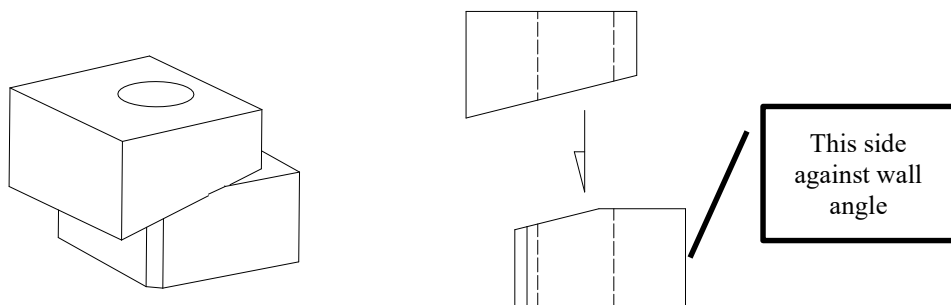
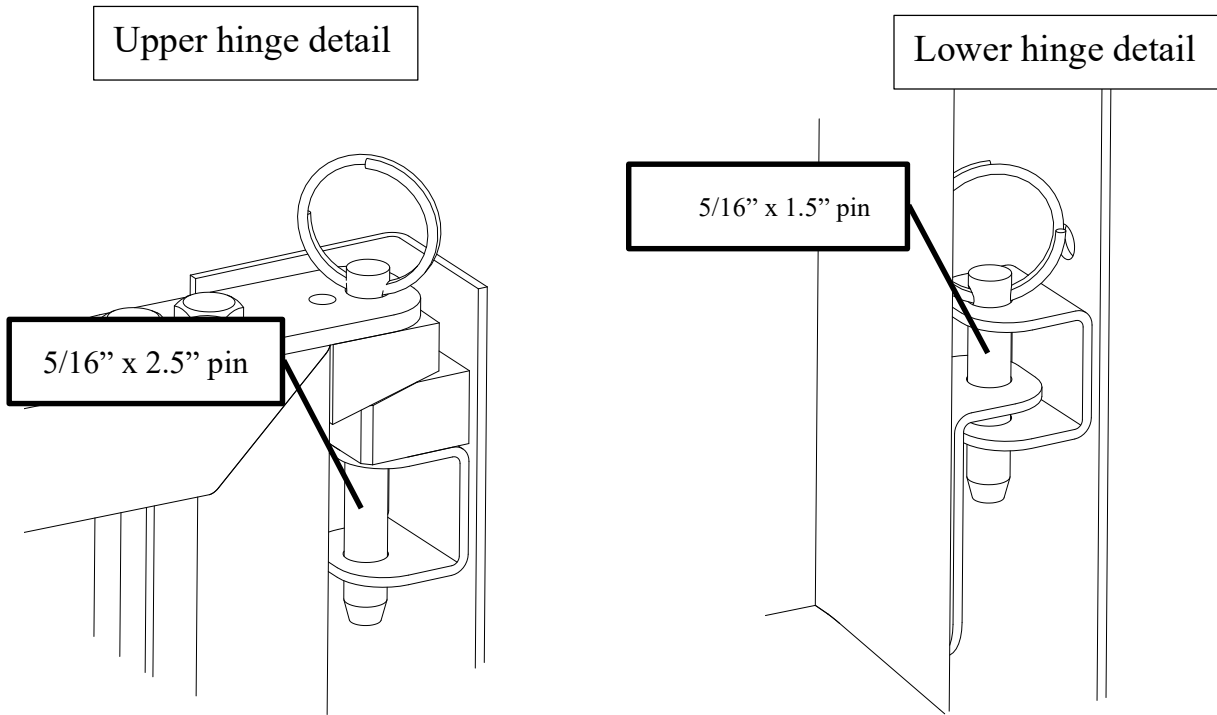

Figure 4
Figure 5
1. Position and secure the first division panel using the supplied tapered hinge blocks, one 5/16" x 2.5" pin for the top and one 5/16" x 1.5" pin for the bottom. Note the shape and orientation of the support blocks. See Figure 4 and Figure 5.